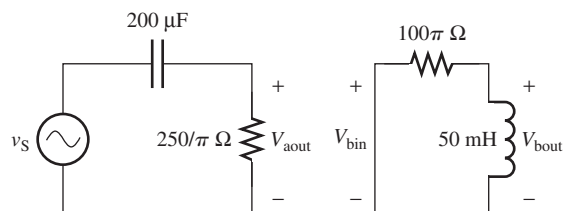

FIGURE P7.31 Circuit for Problem 7.31.
7.31 (A) What kind of combination filter is shown in Figure P7.31? Find the transfer function for the circuit between V_{bout} and V_S .